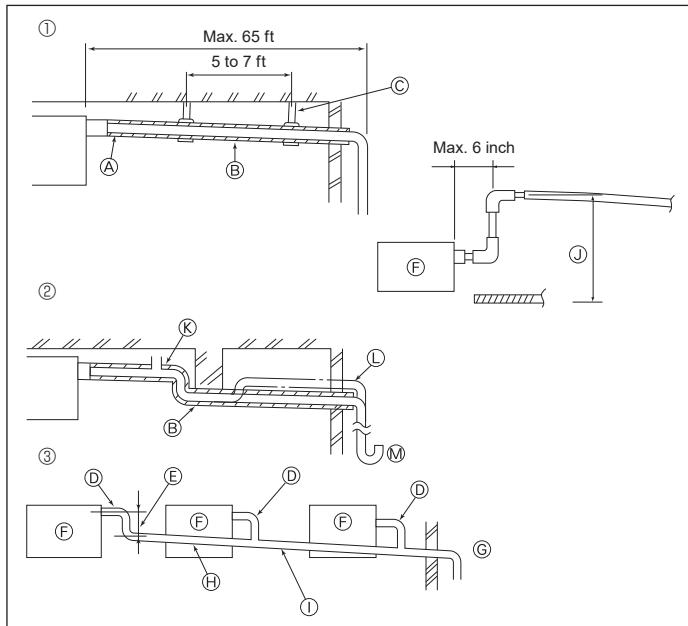

Fig. 3-4
3.4. Drainage piping work (Fig. 3-4)
- ① Correct piping
- ② Wrong piping
- Do not place an air bleeder. It may cause overflowing of drainage, ④
- Do not place a raised pipe on the piping, ⑤
- Do not place odor traps on the piping, ⑥
- ③ Grouped piping